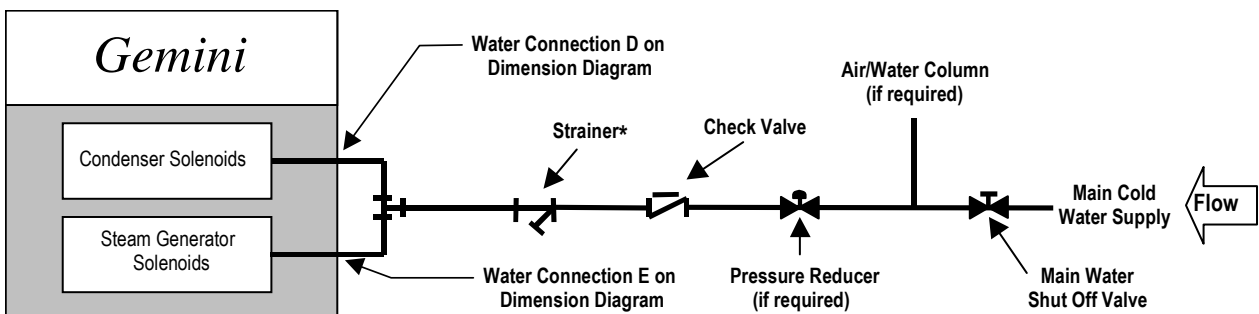
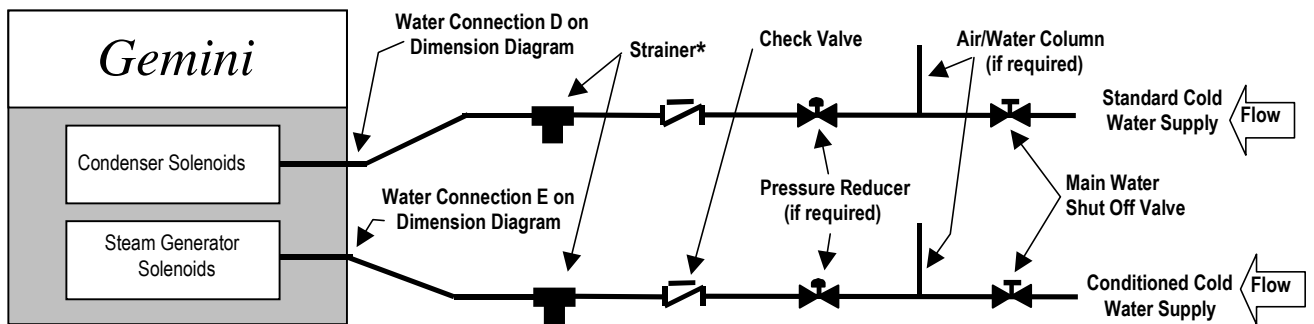

Figure 2-13 Cleveland Range Single Water Supply Arrangement
Figure 2-14 Cleveland Range Single Water Supply Arrangement when Using Separate Conditioned Feed Water Supply
- 3). The Gemini Steamers are supplied with two connection points for incoming water, one feeds the condensers and the second supplies feed water to the generators. If the local water supply is of poor quality (see Chapter 2, Section 6, Part a.1 for details of water quality), it is recommended that treated or otherwise filtered or conditioned water be used to supply the feed water to the generators. In the case of using a separate water supply, use the layout shown in Figure 2-14.
- a) Cleveland Range recommends the plumbing layout illustrated in either Figure 2-13, for installations using a single water supply or Figure 2-14 if a separate conditioned water supply is being used for boiler feed. Note: If using a single water feed to the system the supply piping to the tee fitting should be of at least the next largest size of pipe to the connection provided at the steamer.